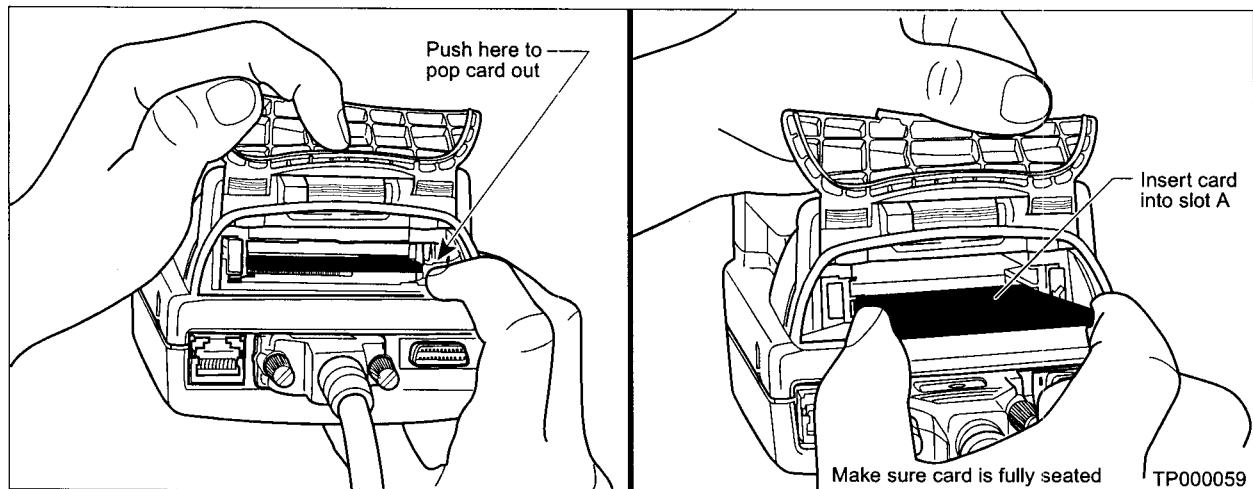

Figure 14
15. Remove the ECM Reprogramming card from slot A of CONSULT-II and install the Diagnostics (blue) card into slot A (see Figure 14).